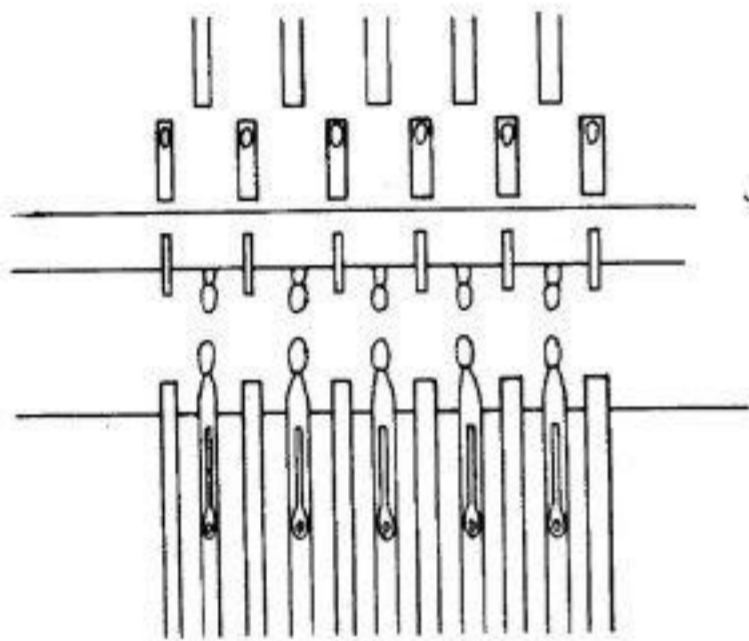

Fig. 13
**Note :** Prior to tightening the knurled nuts, ensure that the ribber needles are correctly positioned in relation to the machine needles. For correct positioning see Fig. 13.